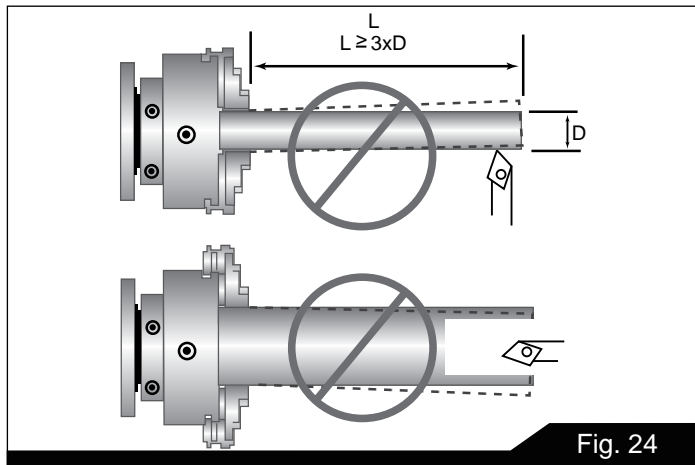

Fig. 24
- Avoid long workpiece extensions, as parts may bend or fly off (see Figure 24). Use rests or the tailstock for support.